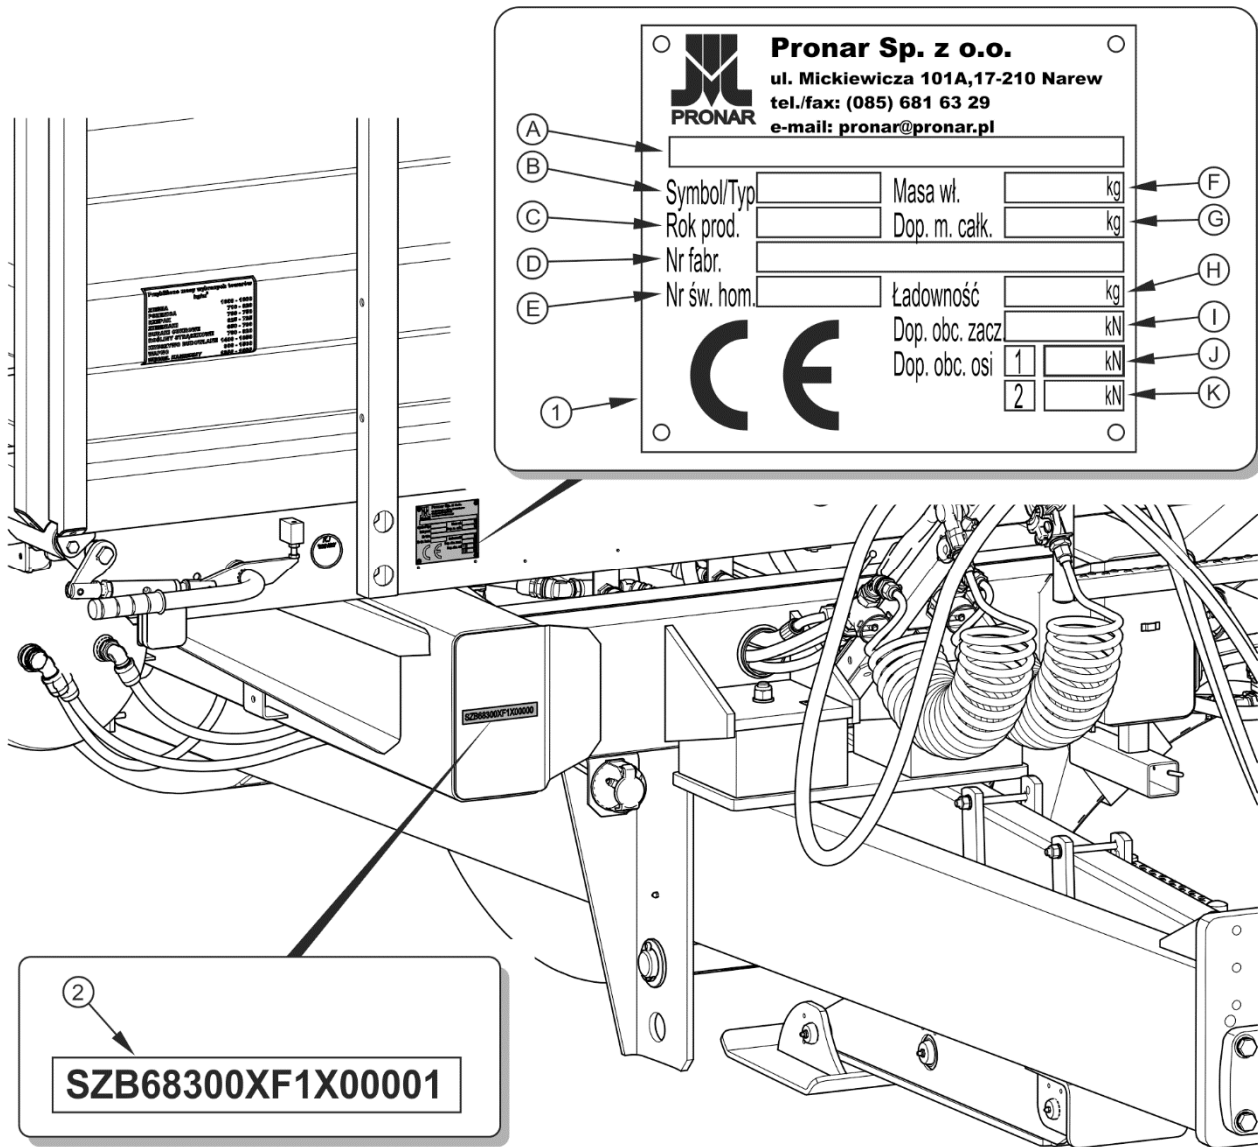

FIGURE 1.1 Location of the data plate and serial number
(1) data plate, (2) serial number
The trailer is marked with the data plate (1), and the factory number (2) located on a gold painted rectangle. The serial number and data plate are on the beam of the trailer's upper frame (Fig. 1.1). When buying the trailer check that the serial numbers on the machine agree with the number written in the *WARRANTY BOOK*, in the sales documents and in the